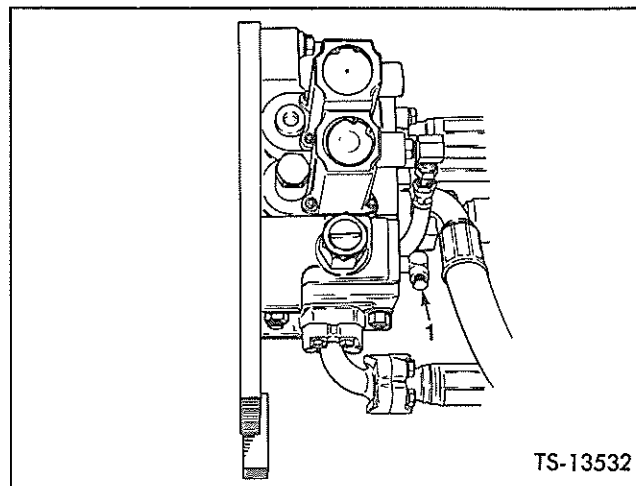

Fig. 26. Main Hydraulic Pressure — Gauge Port
3. Remove pipe plug (Item 1 Figure 26) and attach gauge.